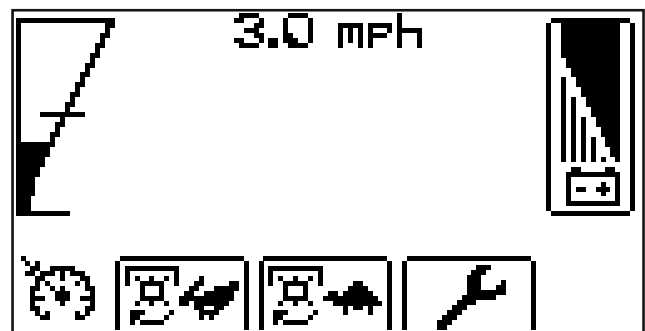

Figure 5-8
- While maintaining the desired speed press the cruise control button  on the dash then release the forward drive pedal  to activate the cruise control. When the cruise control is active the cruise control icon  will appear on the bottom left of your screen. See Figure 5-8.